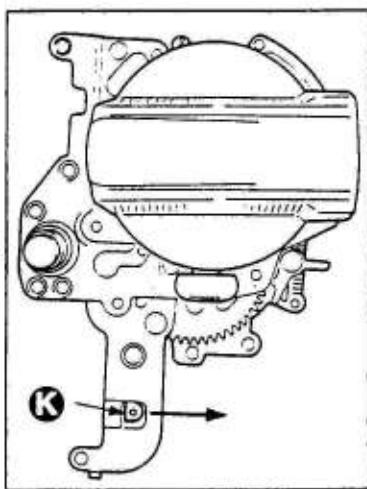

Fig.7
1. Install the crank knob, and check wind-up operation. (See Fig. 7)